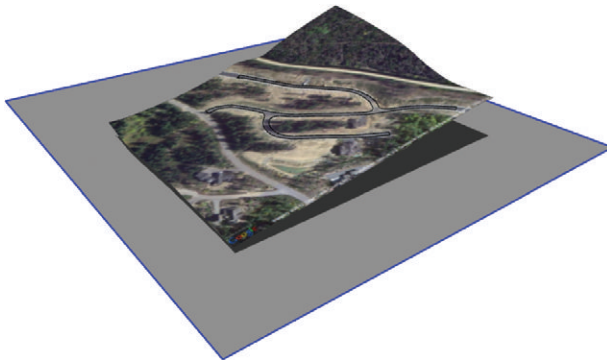

Figure 15.15 The rectangle is just below the terrain; shadows are turned on for effect.
4. Move the rectangle down on the blue axis until it is obviously underneath the site geometry (Figure 15.15).